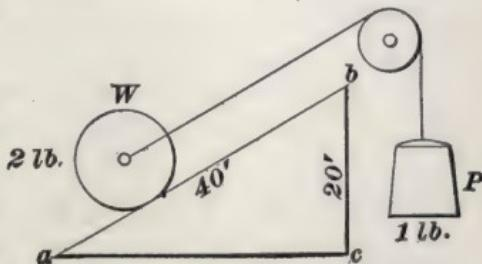
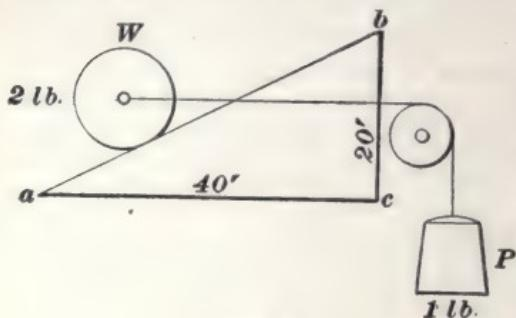
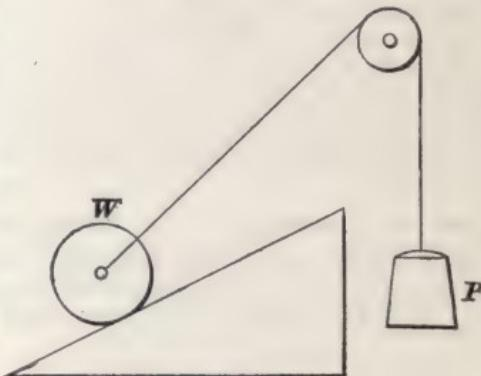

FIG. 34.
FIG. 35.
FIG. 36.
in Fig. 34. (2) Where the force acts parallel to the base, as in Fig. 35. (3) Where the force acts at an angle to the plane or to the base, as in Fig. 36.
**83.** In Fig. 35, the force is supposed to act parallel to the base for any position of  $W$ ; therefore, while  $W$  is moving from the level  $ac$  to  $b$ , or through the height  $cb$  of the inclined plane,  $P$  will move through a distance equal to the length of the base  $ac$ . When the force acts parallel to the base, we have
For Fig. 36, no rule can be given. The ratio of the power varies as the position of  $W$  varies; it may be determined by the principle of the resolution of forces. As  $W$